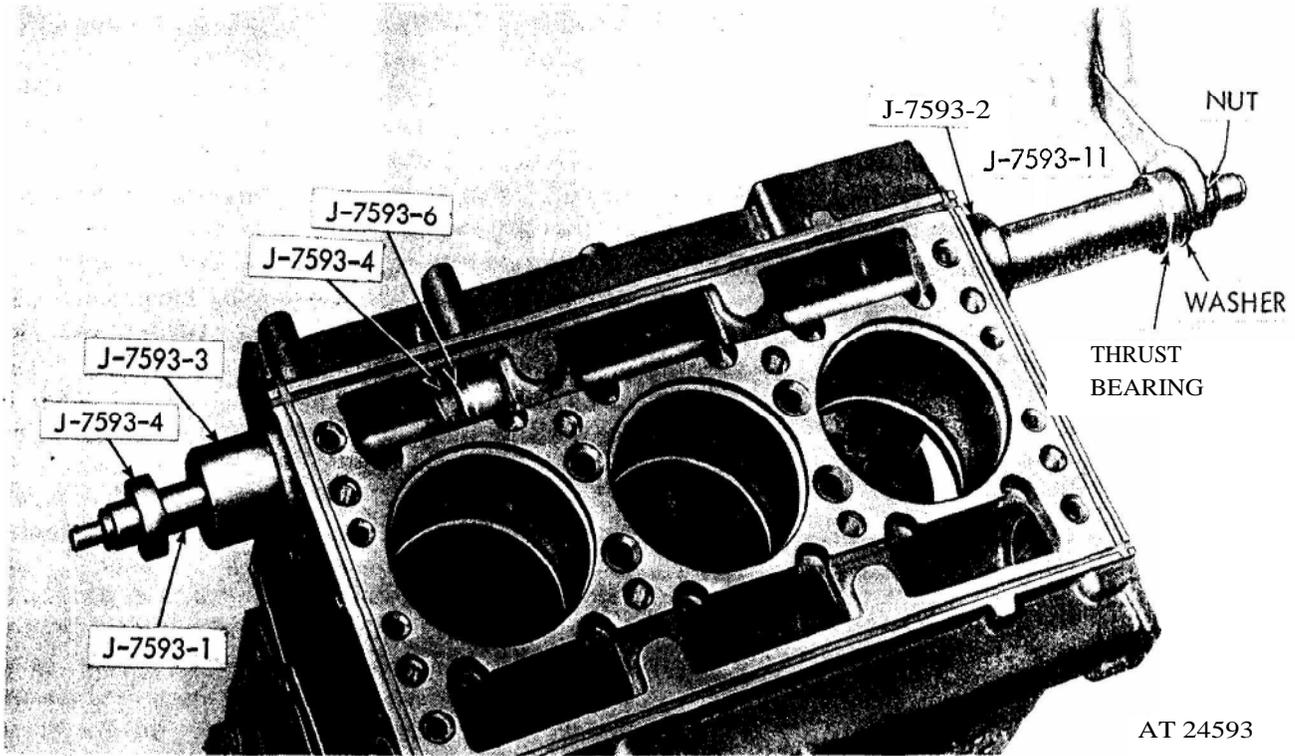
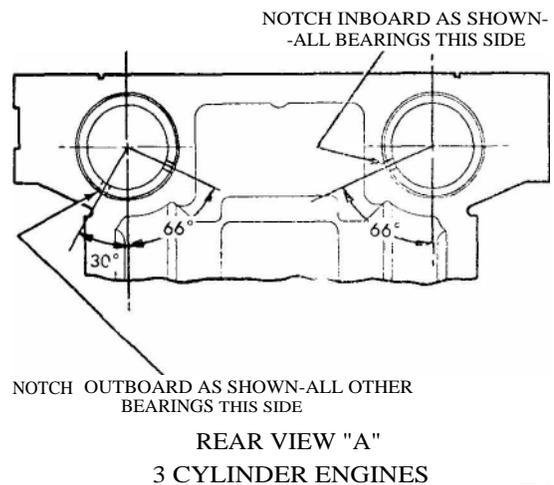

Figure 4. Installing intermediate camshaft bearing.
Figure 6. Location of notch in relation to shaft bore centerline,
1. Remove all accessories and assemblies with their attaching parts as is necessary so that tool set J 7593-03 may be used as shown in figure 3, and in A of figure 6. Tool set J 7593-03, designed for use with standard size bearings, may be used to remove and install .010" undersize and .020" undersize bearings by reducing the pilot diameter of the pilot J 7593-2, installer J 7593-3, remover J 7593-5, installer J 7593-6, and installer J 7593-15. The
To properly install the camshaft and balance shaft bearings, refer to figure 6 for location of the notch in the bearing- in relation to the camshaft or balance shaft bore centerline in the cylinder block. Also, to facilitate assembly, the camshaft and balance shaft bearings are color coded on the side and / or end as shown in the following chart.
1. Insert pilot J 7593-2 in the bore of the block as shown in figure 4. Use the small end of the pilot if an end bearing has been installed. See B and C of figure 6.
3. Next, place a spacer (if required), thrust washer, plain washer and hex nut over the threaded end of the puller. The short spacer J 7593-11, shown in figure 4, is used on the three cylinder block.